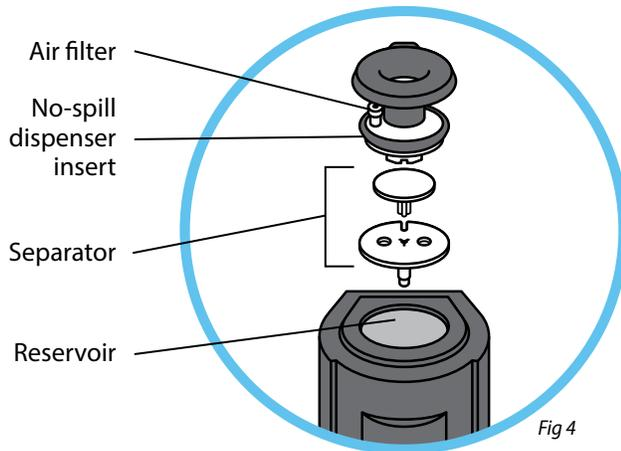

Fig 4
6. Remove the separator by pulling it straight out. Make note of the separator positioning before removing so that it can be re-installed correctly. Clean these parts with dishwashing soap and let them dry thoroughly (*Fig 4*).